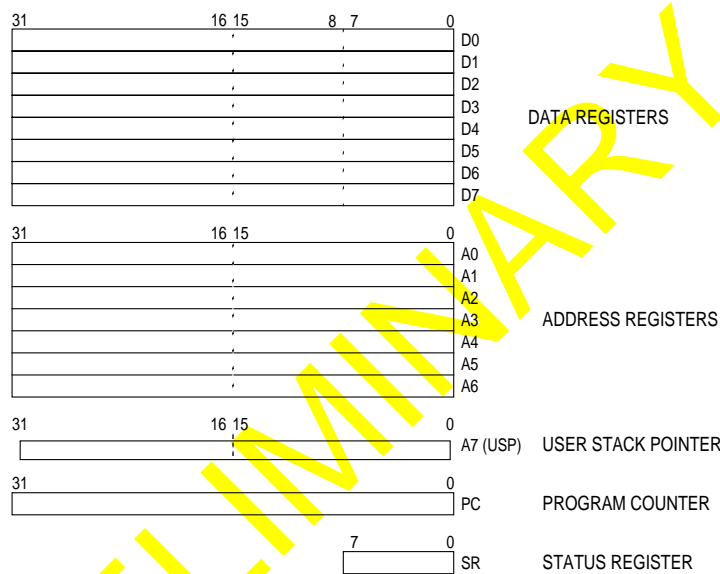

Figure 3-2. User Programming Model
The core has 32-bit registers and a 32-bit program counter (see Figure 3-2). The first eight registers (D7–D0) are data registers that are used for byte (8-bit), word (16-bit), and long-word (32-bit) operations. When using the data registers to manipulate data, they affect the status register (SR). The next seven registers (A6–A0) and the user stack pointer (USP) can function as software stack pointers and base address registers. These registers can be used for word and long-word operations, but they do not affect the status register. The D7-D0 and A6-A0 registers can be used as index registers.